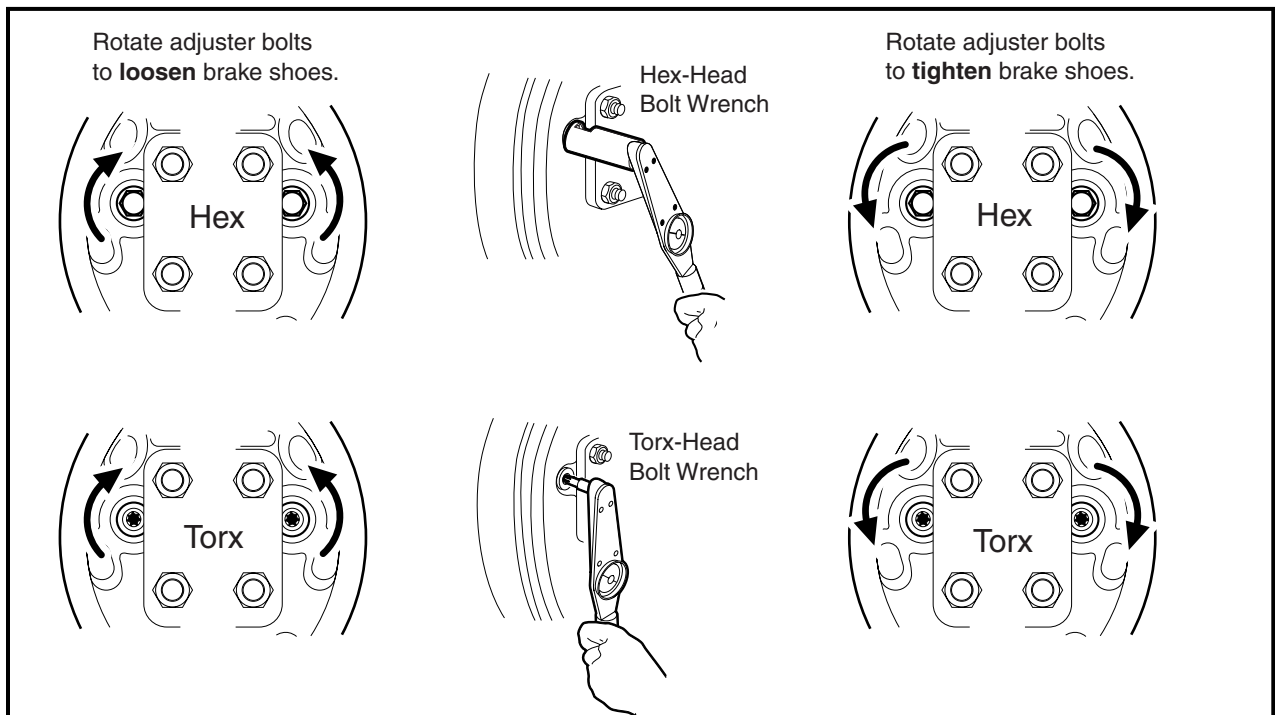

Figure 6-3 Loosen or Tighten Brake Adjusters
- 5.2. Use a torque wrench and a Torx #T-27 driver, or hydraulic brake adjuster (CC 102169401), and gently rotate the adjuster bolts to increase the clearance between the brake shoe lining and the brake drum (Figure 6-3, Page 6-7). See following NOTE.
- 5.2. Use a torque wrench and a Torx #T-27 driver, or hydraulic brake adjuster (CC 102169401), and gently rotate the adjuster bolts to increase the clearance between the brake shoe lining and the brake drum (**Figure 6-3, Page 6-7**). **See following NOTE.**
- 4.2. Use a torque wrench and a Torx #T-27 driver, or hydraulic brake adjuster (CC 102169401), and gently rotate the adjuster bolts (**Figure 6-3, Page 6-7**). See following NOTE.